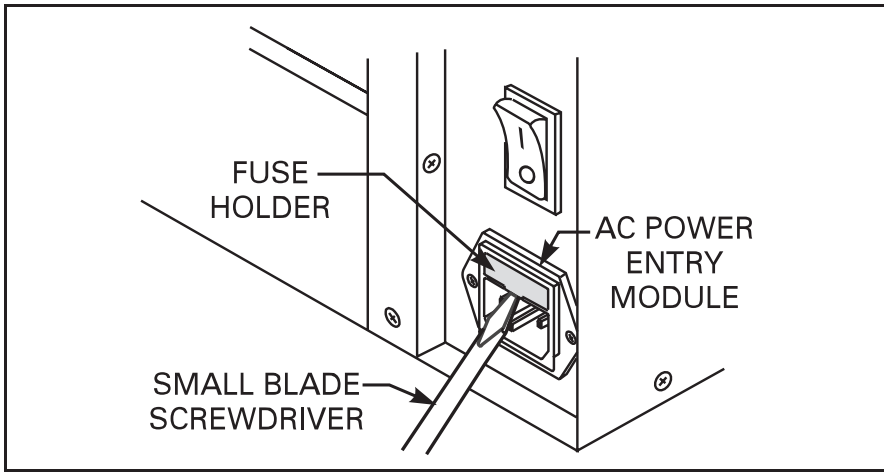

Figure 12. Fuse Replacement—Step 1
1. Turn the printer power off and unplug the power cord from the back of the printer. See Figure 12.